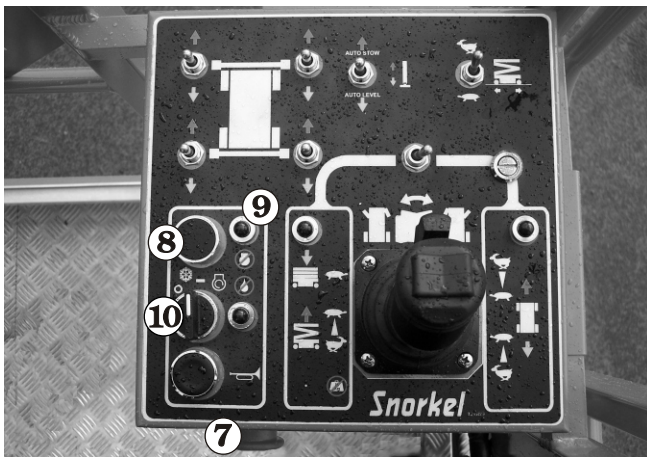

Figure 8.17
6. Turn the **Emergency Stop** switch ⑦ clockwise and it will pop out (on) (see Figure 8.17).
7. If the engine is at ambient temperature, momentarily press the **GLOW-PLUG** switch ⑧. This action will automatically turn the glow-plugs, in the engine, on for 10 seconds. A light ⑨ will automatically come on to indicate that the glow-plugs are on (see Figure 8.17).
8. When the light ⑨ goes out, press and hold the **START** switch ⑩ until the engine starts or for 20 seconds, whichever comes first. When the engine starts, release the **START** switch ⑩ (see Figure 8.17).